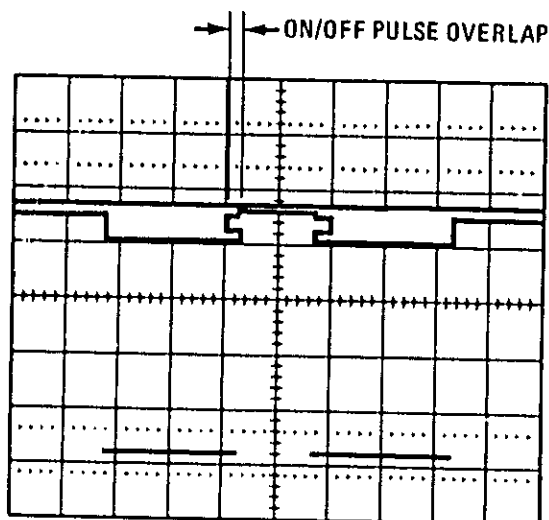

Figure 5-38. On/Off Pulse of Misadjusted Circuit Showing Overlap
8. Secondly, ensure that the marker OFF pulse does not overlap the marker ON pulse. Figure 5-38 illustrates an improper marker OFF pulse. When this occurs, change the value of A7R4 to eliminate overlap. The optimum value for A7R4 allows the maximum number of marker OFF pulses without overlapping the ON pulse. The typical value for A7R4 is 1200 Ohms and the minimum value is 1000 Ohms. (To observe marker OFF pulses, vary RF OUTPUT power between +3 dBm and +13 dBm.)